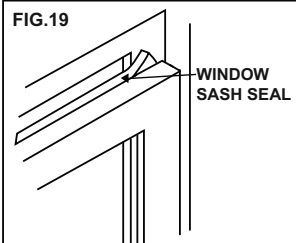

FIG.20
2. Attach right angle safety lock to top window sash as shown (FIG.20).